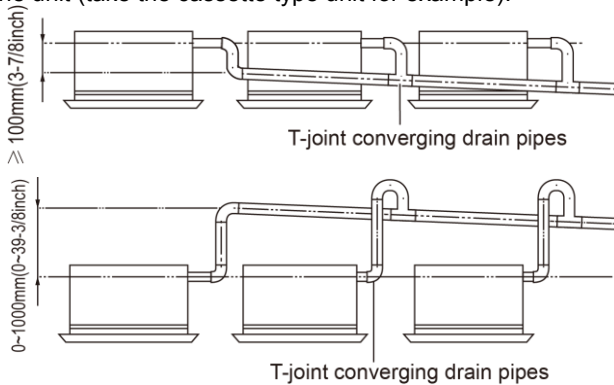

Fig. 4.20
- (3). When unifying multiple drain pipes, install the pipes as Fig. 4.20. Select converging drain pipes whose gauge is suitable for the operating capacity of the unit (take the cassette type unit for example).